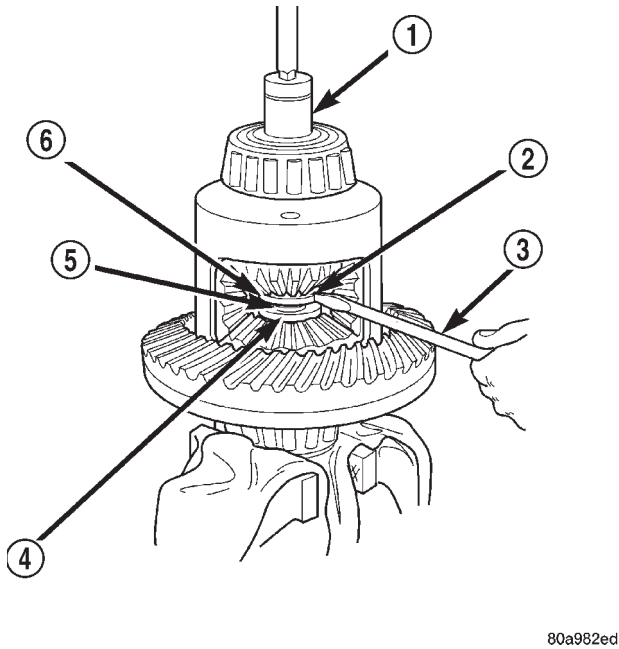

Fig. 43 Threaded Adapter Installation
(8) Position a small screw driver in slot of Threaded Adapter 8140-1 (Fig. 43) to prevent adapter from turning.